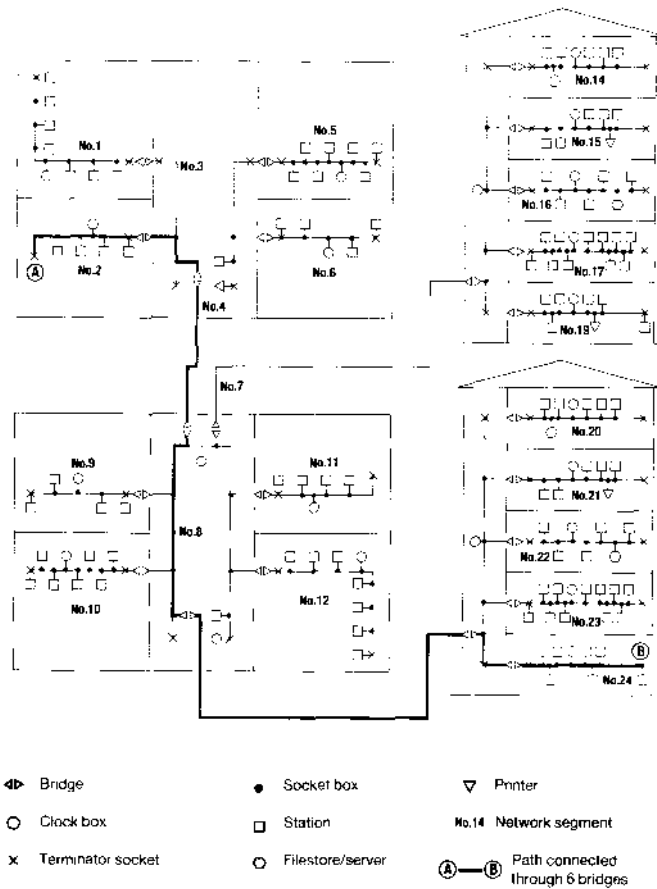

Figure 3: Large campus network
Figure 3 shows a typical campus network, which is an extensive network comprising more than one of the 500m network segments described in the previous section.
The topology of some large networks can create the situation where a signal path could pass through a large number of bridges effectively connected in a long string. The maximum number of bridges in any path between any stations should not exceed seven. Referring to Figure 3, for example, the path shown between (A) and (B) passes through six bridges.